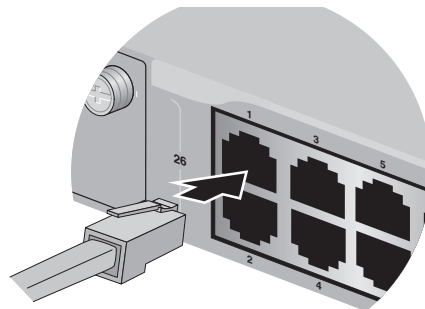

Figure 19. Connecting the Twisted Pair Data Cables
1. Connect the twisted pair data cables to the RJ-45 ports on the switch, as shown in Figure 19.